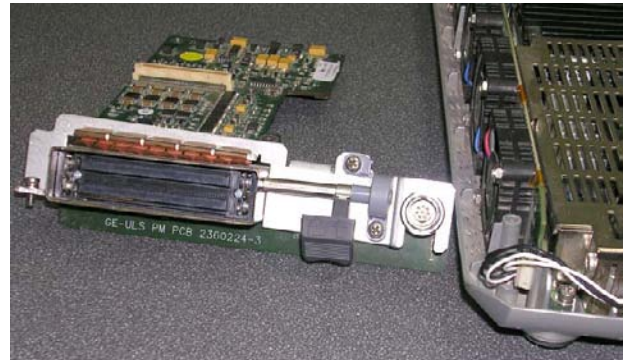

Figure 8-24 Removing the Probe and MUX Board from the Bottom Assembly
- 4.) Lift the P&M Board *upwards* away from the Bottom Assembly and remove it completely, as shown in Figure 8-24 below.
- 1) Return a new P&M Board to the system, pushing it *downwards* into position on the Bottom Assembly. Make sure it is properly seated before returning and fastening the two screws (previously removed). Refer to Figure 8-24 and Figure 8-23, above.